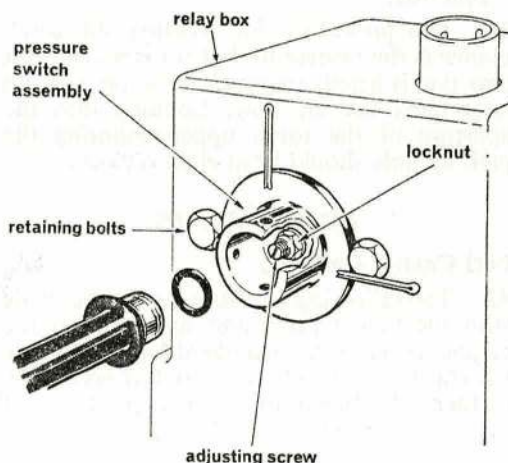

Fig. 10. PRESSURE SWITCH ADJUSTMENT
56. Adjusting (Fig. 10). Certain starting system faults may be traced to the pressure switch. The switch can be adjusted in position,